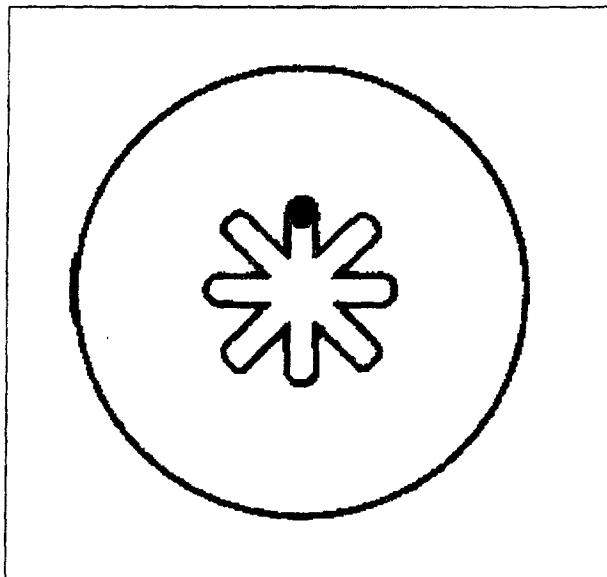

Fig.11
- C. Operate the 8 position switch as shown in Fig.11: the chuck arm moves up.